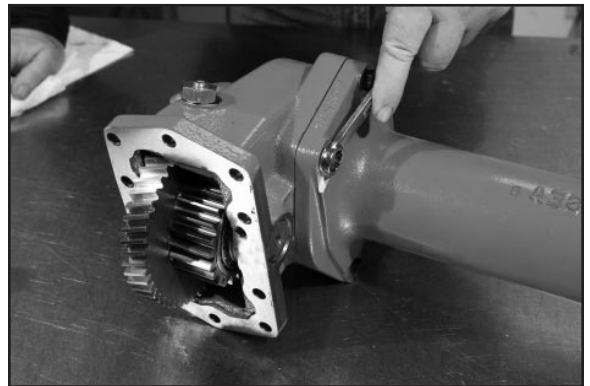

Fig. 1
1. At installation, the input housing is installed to the transmission first. The 891/898 comes from the factory assembled. Remove the 4 bolts that connect the tube section to the input housing (**Fig. 1**).